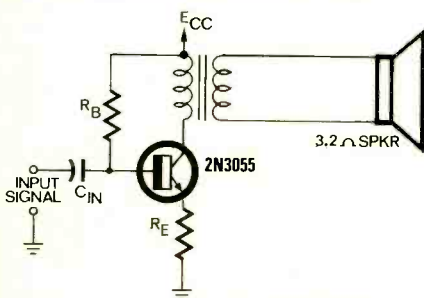

FIG. 1—CLASS-A POWER AMPLIFIER. Constants for this simple, but practical circuit are calculated in the text.
1. Draw a workable circuit. In order to keep the dc current out of the speaker winding, an output transformer should be used. For improved thermal stability use a resistor in the emitter to provide dc feedback. If desired, bypass it with a capacitor to prevent ac degeneration and the reduction of power reaching the loudspeaker. A valid circuit arrangement is shown in Fig. 1.
varies with the size of resistor placed between the base and emitter. Break-down voltages are specified on data sheets for different resistor values. There is no resistor used in the circuit in Fig. 1. Then the  $BV_{CEO}$  rating applies.  $BV_{CEO}$  is the voltage that may be applied between the collector and emitter of the transistor without destroying the device, when there is no resistor between the base and emitter.  $BV_{CEO}$  is the breakdown voltage when the current flowing through the device is very small. As the collector current increases, the  $BV_{CEO}$  breakdown voltage is reduced to a more or less constant value,  $V_{CEO(sus)}$ , referred to as the sustaining voltage. For the 2N3055,  $V_{CEO(sus)}$  is 60 volts.  $V_{CEA}$  should be equal to or less than 60 volts. Taking various factors into consideration, such as peak voltages due to the primary inductance of the transformer, the possibility of getting transistors at reduced prices when  $BV_{CEO(sus)}$  is low, the economy of a low-voltage power supply, etc., choose  $V_{CEA}$  at 25 volts.